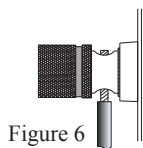

Figure 6
8. Connect the Loudspeaker hookup cables to the MC8207 Output Terminal being careful to observe the correct polarities, making sure to match up channel designation with Loudspeaker location. Insert the spade lug connector or prepared section of the cable end into the terminal side access hole. Then tighten the terminal cap until the cable is firmly clamped into the terminals so the lugs or wire cannot slip out. Refer to figures 6, 7 and 8.
9. Connect the Loudspeaker hookup cables to the MC8207 Output Terminal being careful to observe the correct polarities, making sure to match up channel designation with Loudspeaker location. Insert the spade lug connector or prepared section of the cable end into the terminal side access hole. Then tighten the terminal cap until the cable is firmly clamped into the terminals so the lugs or wire cannot slip out. Refer to figures 6, 7 and 8.